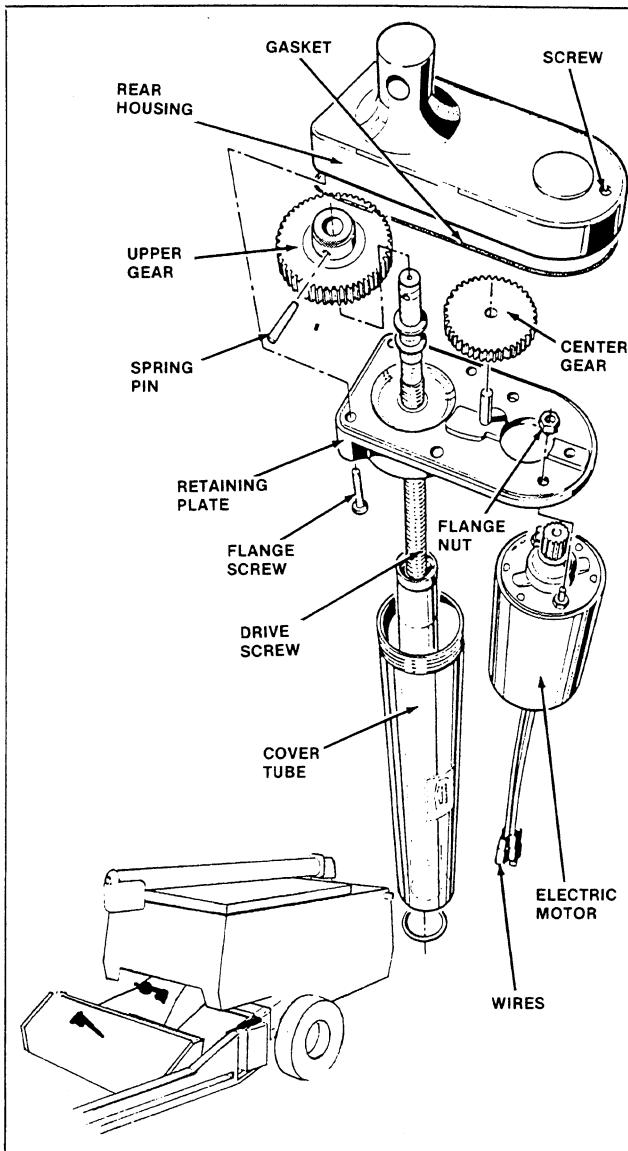

FIGURE 2-9: Linear Actuator
2. Remove four flange screws securing cover tube retaining plate to linear actuator rear housing and remove plate and cover tube (Figure 2-9).
1. Install electric motor to linear actuator with two flange nuts (Figure 2-9). Tighten securely.